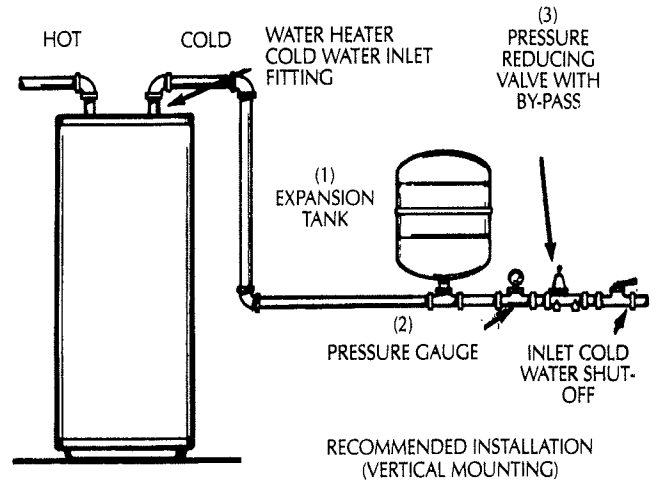
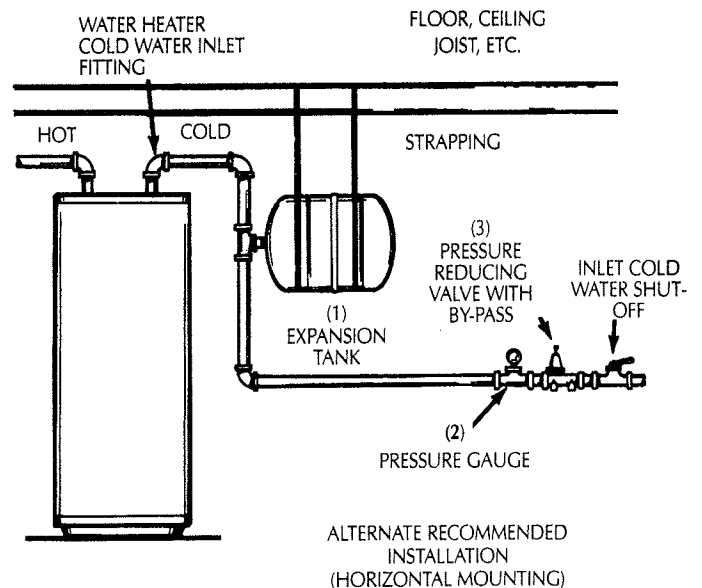

Figure 1
Figure 2
2. The items which must be installed in sequence in the cold water line are (1) the EXPANSION TANK must be installed at least 18 inches away from the cold water inlet fitting on the water heater, (2) the PRESSURE GAUGE, and (3) the PRESSURE REDUCING VALVE, if required. See Figure 1.
3. The expansion tank is designed to be supported by the system piping in the vertical position. If however, the expansion tank must be installed horizontally as shown in Figure 2, it must be supported by adequate strapping (not supplied).
Figures 1 and 2 on page 5 show the correct valves and fittings that you will need to install your expansion tank. A threaded (3/4") water connection is supplied on the tank bottom.
2. The expansion tank is designed to be supported by the system piping in the vertical position (See Figure 1). If however, the expansion tank must be installed horizontally as shown in Figure 2, it must be supported by adequate strapping (not supplied).
3. Install expansion tank, pressure gauge and pressure reducing valve, if required, as shown in Figure 1 or 2.